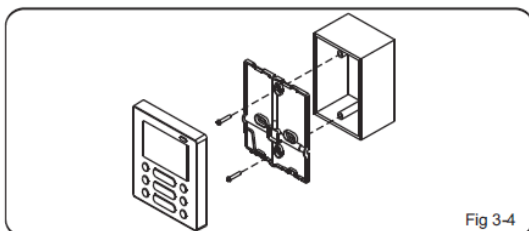

Fig 3-4
6. Fix the bottom cover to the electric cabinet by the accessory slotted head screws. Confirm the bottom cover is parallel to wall surface. And then reinstall the bottom cover to centralized controller. (See fig 3-4)